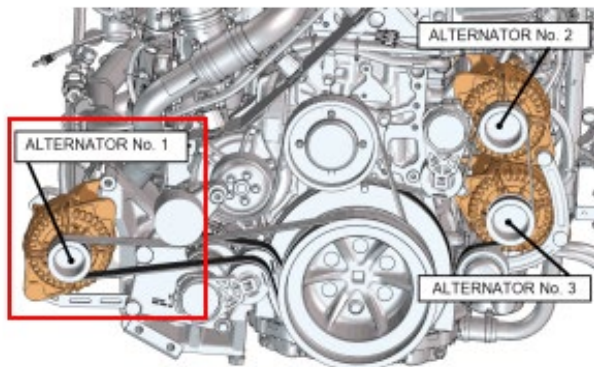

Figure 8: Second alternator to be checked
7. Repeat this procedure for the LH alternator (alternator # 1, Figure 8 & 9).